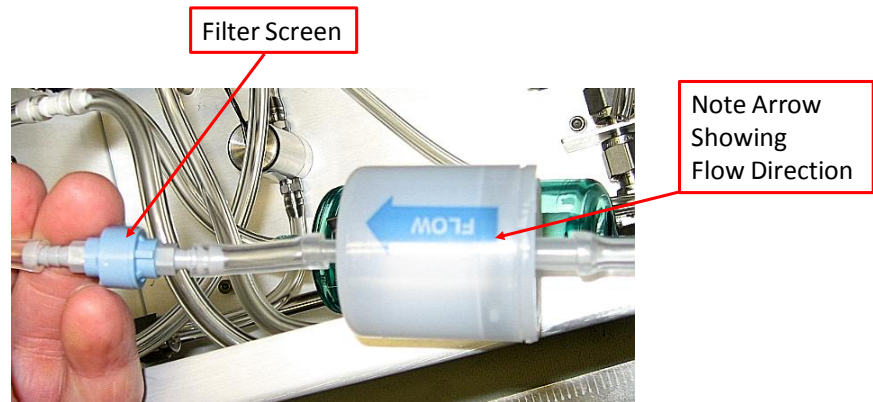

Figure 9-6
Note: Sometimes it is easier to push rather than pull. If a filter screen is present as shown in Figure 9-6, do **not** remove the Filter Screen.
5. Attach the tubing to a new filter making sure the flow direction matches that of the filter you removed. The Filter Screen is in-line located after the arrow, as shown in Figure 9-6.